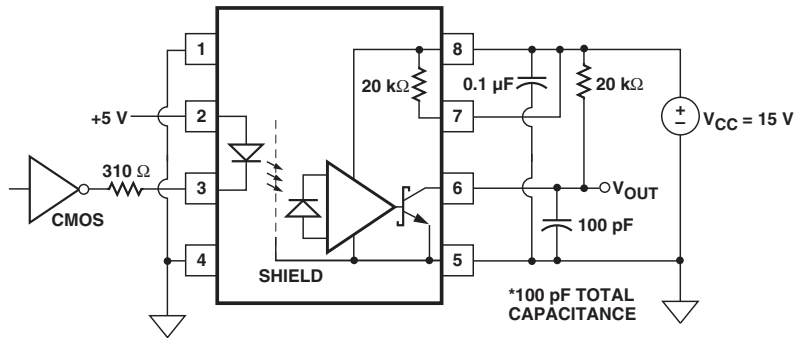
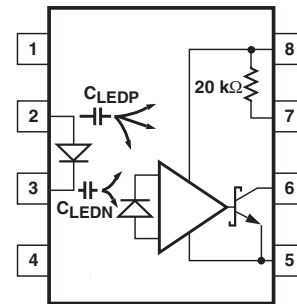
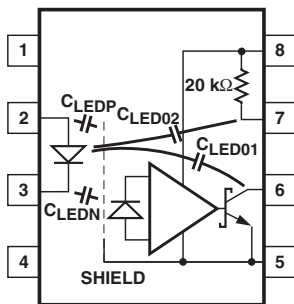
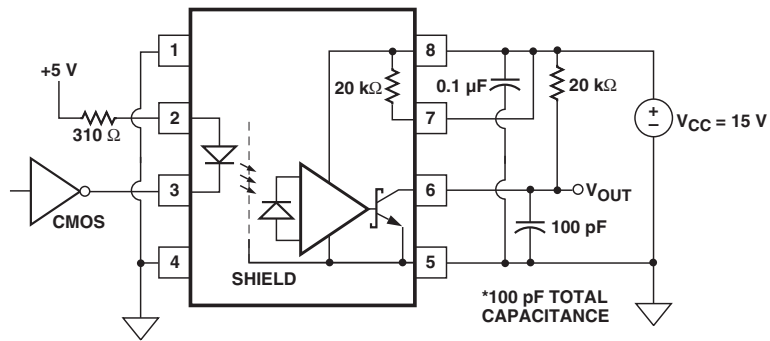

Figure 13. Recommended LED drive circuit
Figure 14. Optocoupler input to output capacitance model for unshielded optocouplers
Figure 15. Optocoupler input to output capacitance model for shielded optocouplers
Figure 16. LED drive circuit with resistor connected to LED anode (not recommended)
Without a detector shield, the dominant cause of optocoupler CMR failure is capacitive coupling from the input side of the optocoupler, through the package, to the detector IC as shown in Figure 14. The HCPL-530X improves CMR performance by using a detector IC with an optically transparent Faraday shield, which diverts the capacitively coupled current away from the sensitive IC circuitry. However, this shield does not eliminate the capacitive coupling between the LED and the optocoupler output pins and output ground as shown in Figure 15. This capacitive coupling causes perturbations in the LED current during common mode transients and becomes the major source of CMR failures for a shielded optocoupler. The main design objective of a high CMR LED drive circuit becomes keeping the LED in the proper state (on or off) during common mode transients. For example, the recommended application circuit (Figure 13), can achieve 10 kV/ $\mu$ s CMR while minimizing component complexity. Note that a CMOS gate is recommended in Figure 13 to keep the LED off when the gate is in the high state.
Another cause of CMR failure for a shielded optocoupler is direct coupling to the optocoupler output pins through  $C_{LEDO1}$  and  $C_{LEDO2}$  in Figure 15. Many factors influence the effect and magnitude of the direct coupling including: the use of an internal or external output pull-up resistor, the position of the LED current setting resistor, the connection of the unused input package pins, and the value of the capacitor at the optocoupler output (CL).
The placement of the LED current setting resistor affects the ability of the drive circuit to keep the LED on during transients and interacts with the direct coupling to the optocoupler output. For example, the LED resistor in Figure 16 is connected to the anode. Figure 17 shows the AC equivalent circuit for Figure 16 during common mode transients. During a  $+dV_{CM}/dt$  in Figure 17, the current available at the LED anode ( $I_{TOTAL}$ ) is limited by the series resistor. The LED current ( $I_F$ ) is reduced from its DC value by an amount equal to the current that flows through  $C_{LEDP}$  and  $C_{LEDO1}$ . The situation is made worse because the current through  $C_{LEDO1}$  has the effect of trying to pull the output high (toward a CMR failure) at the same time the LED current is being reduced. For this reason, the recommended LED drive circuit (Figure 13) places the current setting resistor in series with the LED cathode. Figure 18 is the AC equivalent circuit for Figure 13 during common mode transients. In this case, the LED current is not reduced during a  $+dV_{CM}/dt$  transient because the current flowing through the package capacitance is supplied by the power supply. During a  $-dV_{CM}/dt$  transient, however, the LED current is reduced by the amount of current flowing through  $C_{LEDN}$ . But better CMR performance is achieved since the current flowing in  $C_{LEDO1}$  during a negative transient acts to keep the output low.
Coupling to the LED and output pins is also affected by the connection of pins 1 and 4. If CMR is limited by perturbations in the LED on current, as it is for the recommended drive circuit (Figure 13), pins 1 and 4 should be connected to the input circuit common. However, if CMR performance is limited by direct coupling to the output when the LED is off, pins 1 and 4 should be left unconnected.
A high CMR LED drive circuit must keep the LED off ( $V_F \leq V_{F(OFF)}$ ) during common mode transients. For example, during a  $+dV_{CM}/dt$  transient in Figure 18, the current flowing through  $C_{LEDN}$  is supplied by the parallel combination of the LED and series resistor. As long as the voltage developed across the resistor is less than  $V_{F(OFF)}$  the LED will remain off and no common mode failure will occur. Even if the LED momentarily turns on, the 100 pF capacitor from pins 6-5 will keep the output from dipping below the threshold. The recommended LED drive circuit (Figure 13) provides about 10 V of margin between the lowest optocoupler output voltage and a 3 V IPM threshold during a 10 kV/ $\mu$ s transient with  $V_{CM} = 1000$  V. Additional margin can be obtained by adding a diode in parallel with the resistor, as shown by the dashed line connection in Figure 18, to clamp the voltage across the LED below  $V_{F(OFF)}$ .
Since the open collector drive circuit, shown in Figure 19, cannot keep the LED off during a  $+dV_{CM}/dt$  transient, it is not desirable for applications requiring ultra high CMRH performance. Figure 20 is the AC equivalent circuit for Figure 16 during common mode transients. Essentially all the current flowing through  $C_{LEDN}$  during a  $+dV_{CM}/dt$  transient must be supplied by the LED. CMRH failures can occur at  $dv/dt$  rates where the current through the LED and  $C_{LEDN}$  exceeds the input threshold. Figure 21 is an alternative drive circuit which does achieve ultra high CMR performance by shunting the LED in the off state.